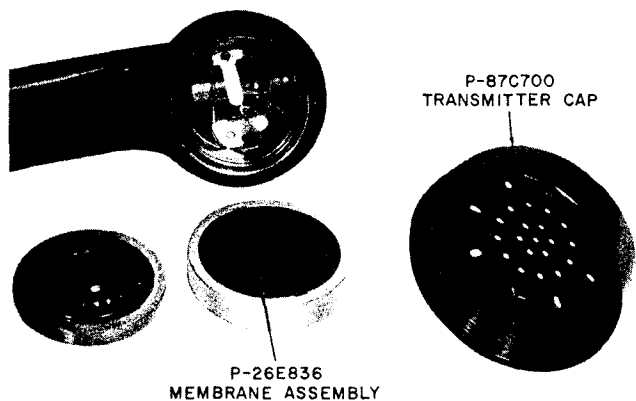

Fig. 4—Waterproof Transmitter Assembly
2.04 A P-26E836 waterproof membrane assembly, which fits over the transmitter and is a part of the G3S and G3T handsets, may be installed in any G-series handset. When this cover is used, it is necessary to install a special P-87C700 transmitter cap (Fig. 4).
- 2.17** G3FR, M, P, R, S, and T handsets are intended for use on coin collectors. Some coin collectors are equipped with armored handset cords. The G3S and G3T handsets are also equipped with a waterproof transmitter cover for use on outdoor coin collectors (Fig. 4).